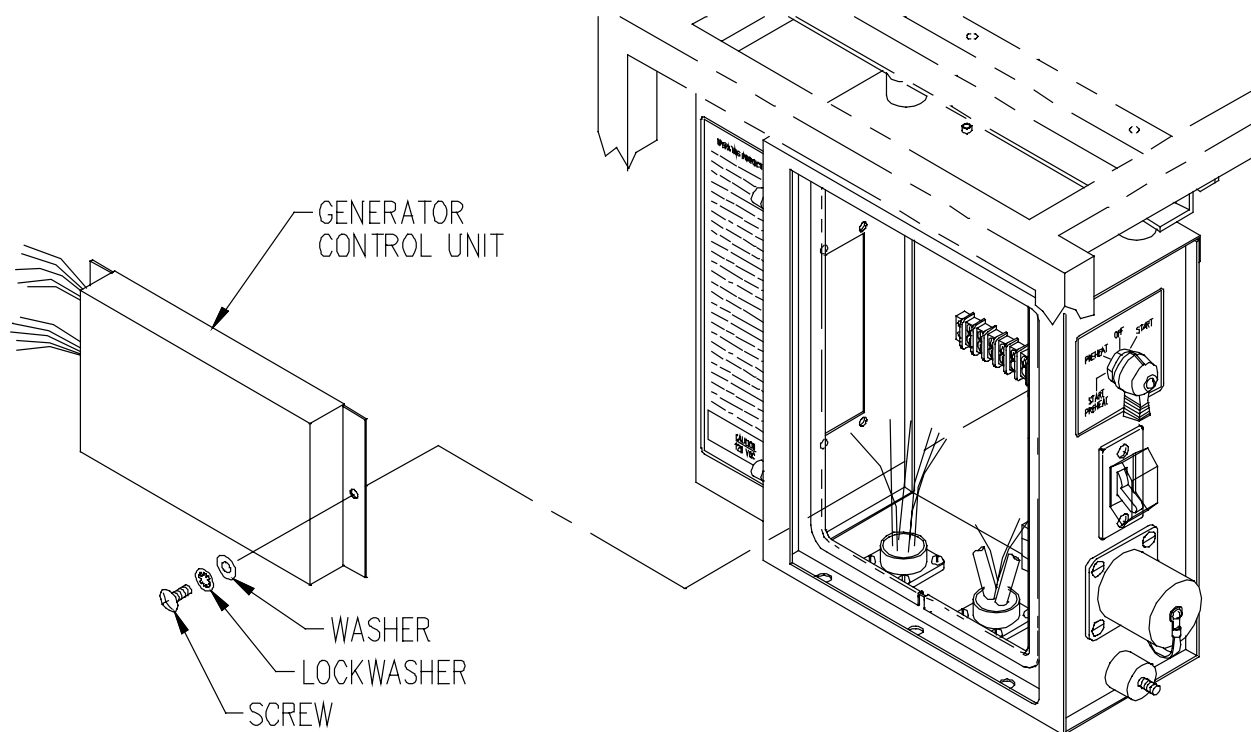

Figure 5-1. Generator Control Unit (MEP-531A)
(1) Shut down generator set.
(2) Release instrument panel by turning fastener, open instrument panel slowly.
(3) Remove EMI filter (MEP-531A), refer to paragraph 4.47.b.
(4) Tag and disconnect electrical leads for generator control unit (Figure 5-1) from terminals on terminal board TB1.
(5) Remove screws, lockwashers, washers, and generator control unit from control panel.